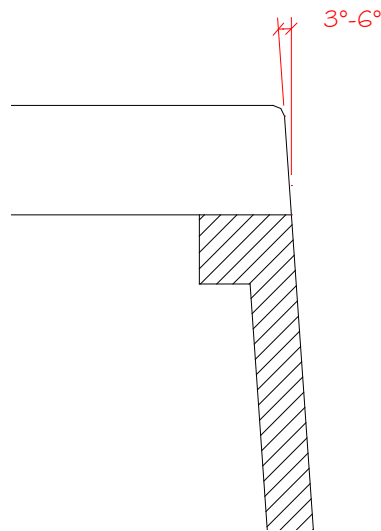

Figure 2
- i. This polished profile will have a 1/8" top radius and a 3°-6° taper after fabrication. See Figure 2.